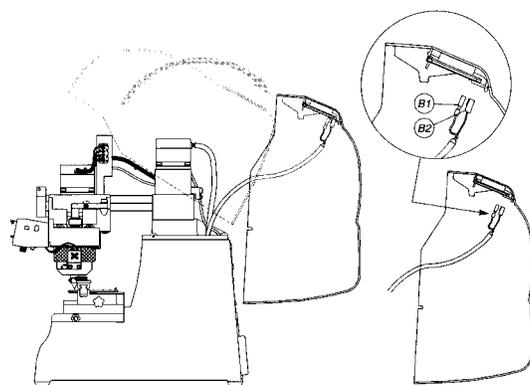

Fig. 31
4. Disconnect the connector (B1) and fasten (B2) from the display (Fig 31).